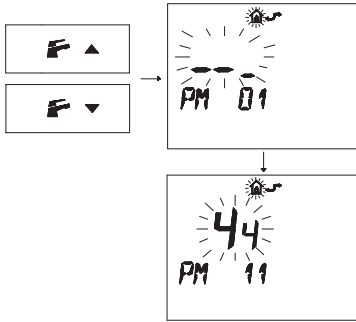

Fig. 7.33
- Press buttons **PM** or **11** to display the "PM11" program of the pump post-circulation (Fig. 7.33).